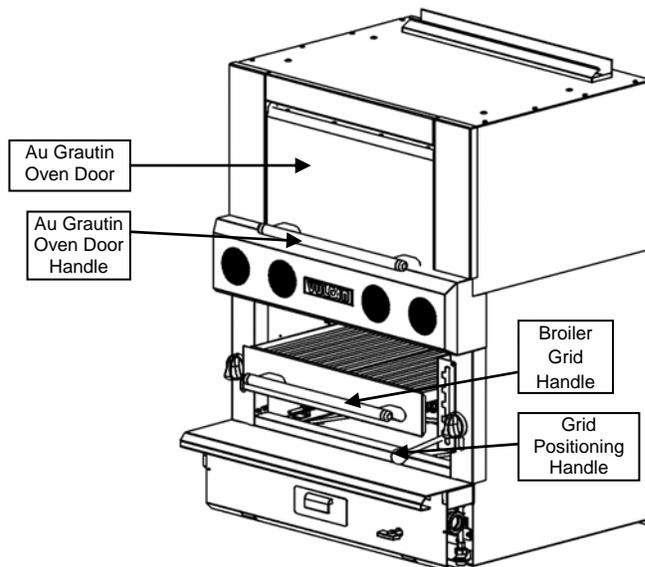

Fig. 22
- Allows the operator to pull the grid clear of the heat zone, but does not allow the grid to be completely removed from the broiler. When the product is to be removed from the heat zone, pull the grid handle straight out. The grid assembly, which is on roller bearings, will slide out until it locks into place. To return the grid assembly to the broiling compartment, pull the grid handle slightly up and push straight back (Fig. 22).